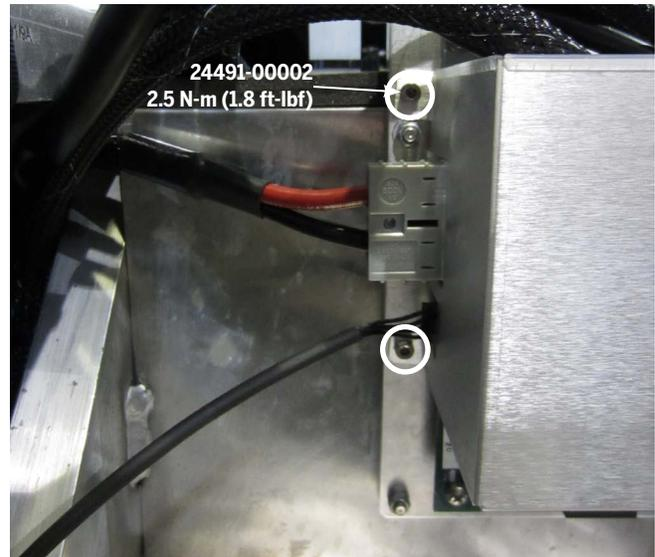
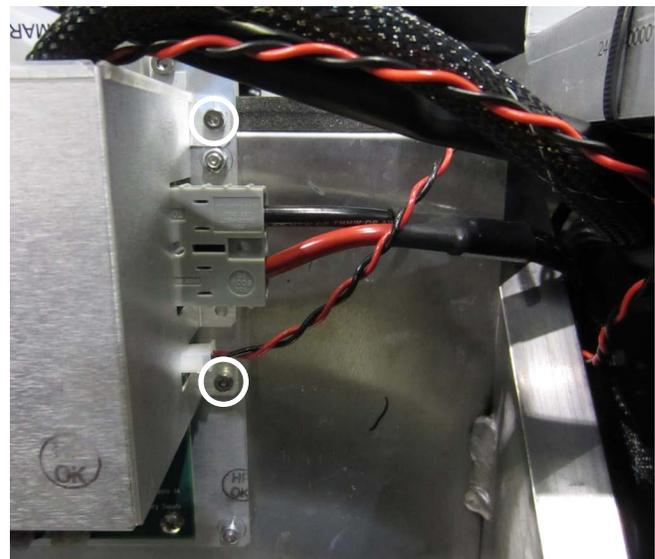

Figure 142: Left Side Fasteners
Figure 143: Right Side Fasteners
3. Using a 3 mm hex wrench, remove the four fasteners as shown in **Figure 142** and **Figure 143**.
3. Using a 3 mm hex wrench, install the four fasteners as shown in **Figure 142** and **Figure 143**. Torque to **2.5 N-m (1.8 ft-lbf)**.